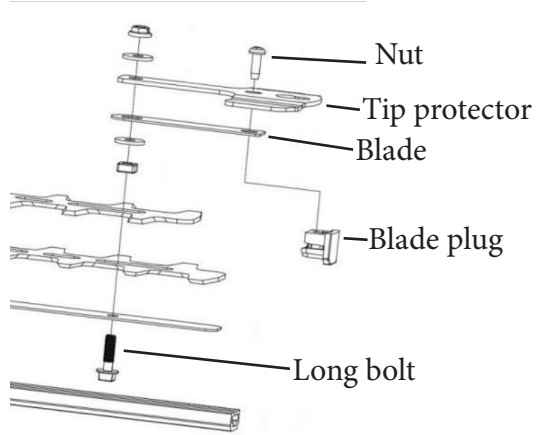

Fig.7B
b) Align the tip protector with the blade plug on the blade and mount it into place. Secure it with a new long bolt and nut as well as the saved washer, bushing and nut as shown in Fig. 7B.